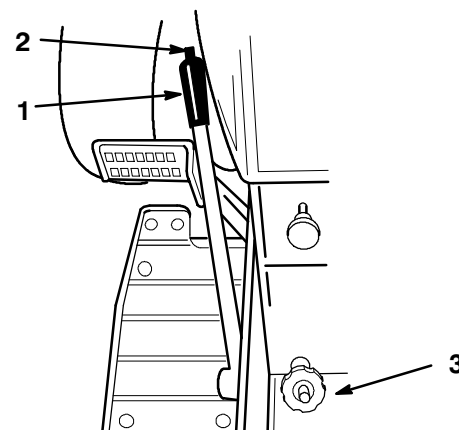

Figure 13
The attachment lift lever (Fig. 13) is used to raise and lower various attachments.
The Dial-A-Height control (Fig. 13) is used to limit the downward travel of attachments other than mowers. For example, use the Dial-a-Height to hold the blade or snowthrower above a gravel drive to prevent picking up stones or hold the tiller at a selected depth. For mowing, turn the Dial-a-Height fully counterclockwise until the knob contacts the plastic thread cap, so the mower can move through its full range of travel. Use the mower’s height control to set cutting height. To use the Dial-a-height:
1. Raise the attachment lift lever: Refer to Raising Attachments. In the raised position the Dial-A-Height knob (Fig. 13) can be rotated to change the stop location. Turn right to raise and left to lower the height of the attachment.